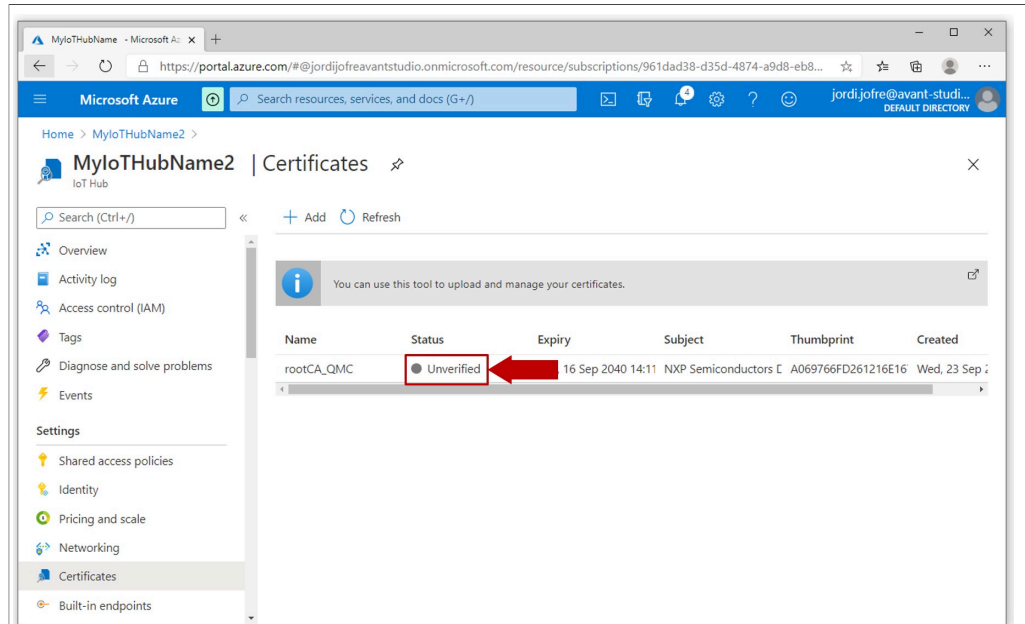

Figure 54. Root CA certificate unverified status
- 2. The certificate we have just uploaded will appear in the list as **Unverified** as shown in Figure 54.